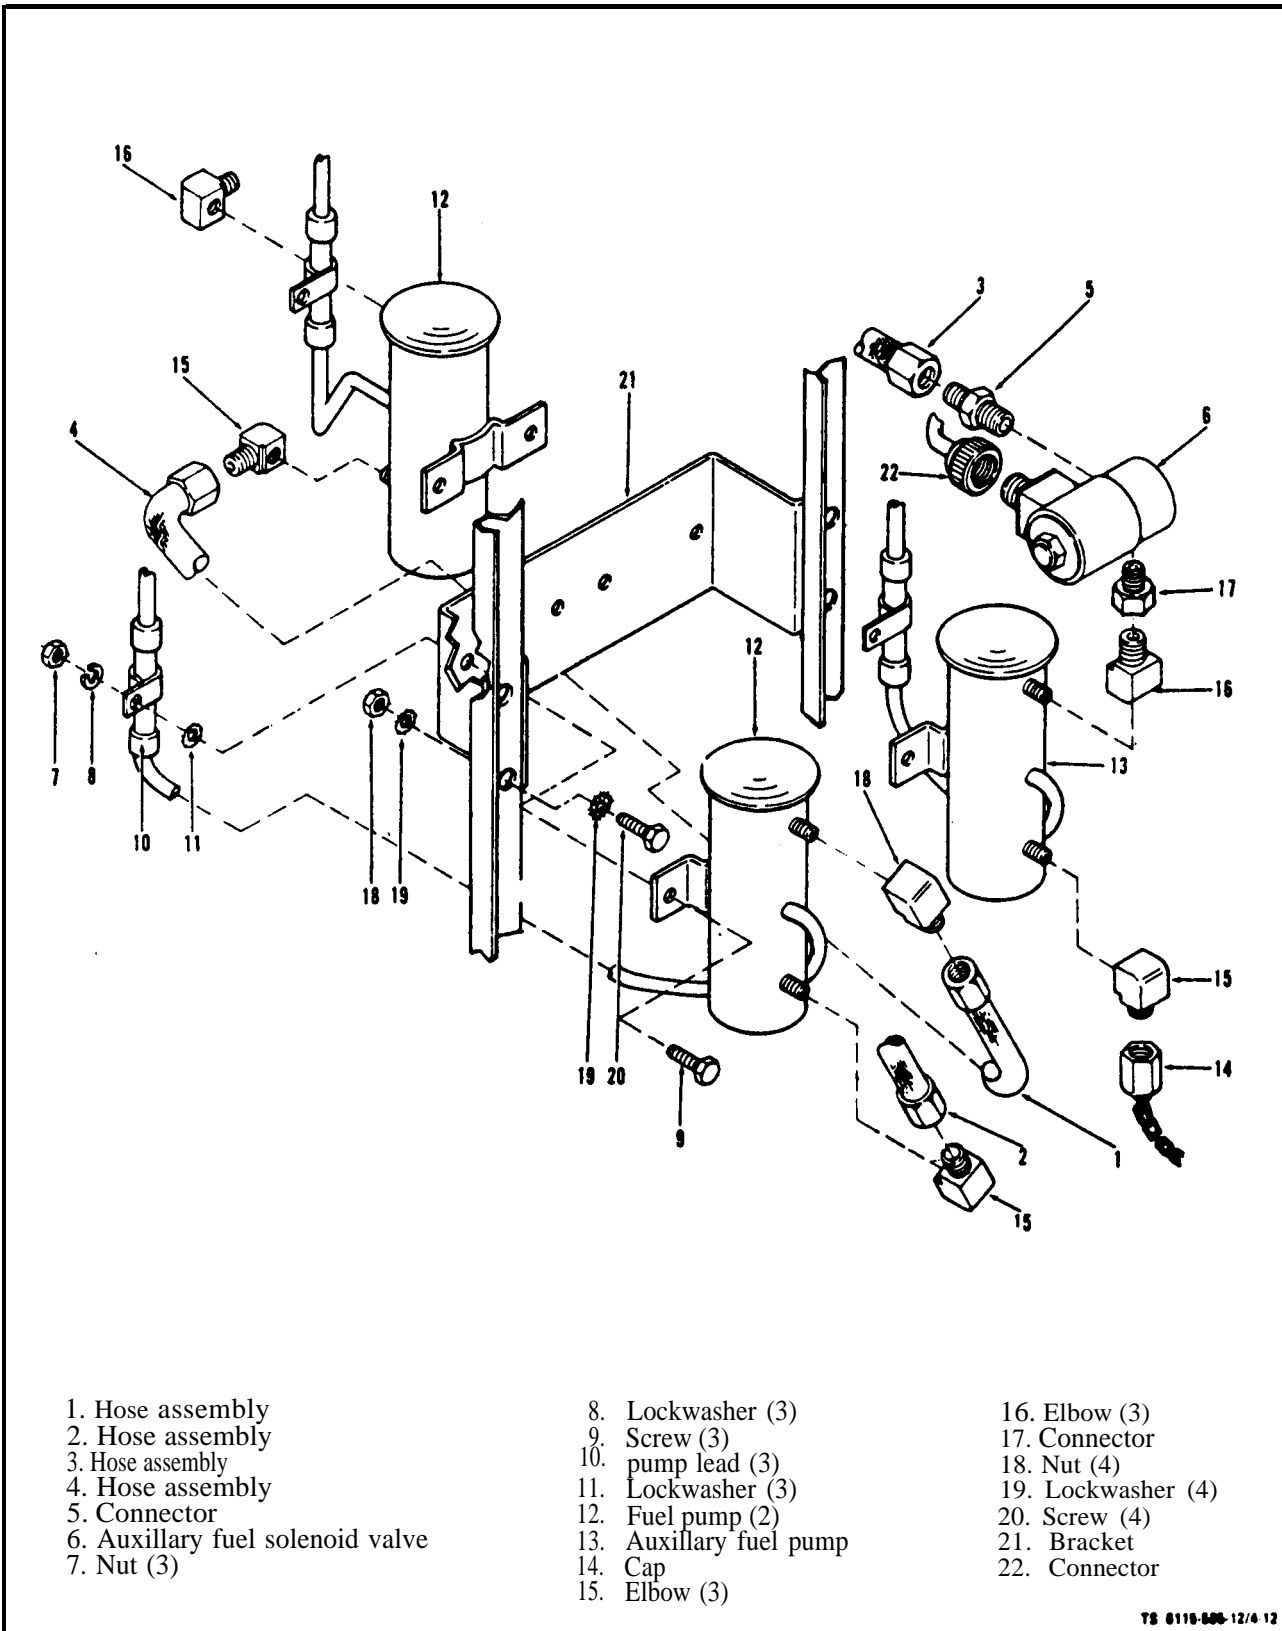

Figure 4-12. Fuel Pump, Fuel Hoses and Solenoid
c. Removal (see figure 4-12).
(1) Fuel Hoses. Tag and remove fuel hoses (1, 2, 3 and 4) by unscrewing at fittings (5, 15 and 16). Keep
(1) Position bracket (21) on frame and secure with screws (20), lockwashers (19) and nuts (18).
(2) Install fuel fittings (17, 16, 15, 14 and 5) in fuel pumps (12 and 13).
(3) Turn solenoid valve (6) onto fuel pump outlet fittings (16 and 17) and position on fuel pump as shown in figure 4-12.
(4) Install fuel pumps (12 and 13) on bracket (21) and secure with screws (9), washers (8 and 11) and nuts (7). Reconnect electrical leads to wiring harness and fuel solenoid valve.
(5) Install and tighten fuel hoses (4, 3, 2 and 1).